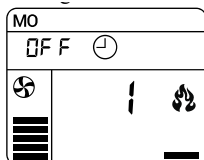

Fig. 5.1
Click **CRONO** (8) for at least 4 sec. to enable the crono mode. The last selected programme or the OFF icon (if there is no programme) flashes on the display (Fig. 5.1).